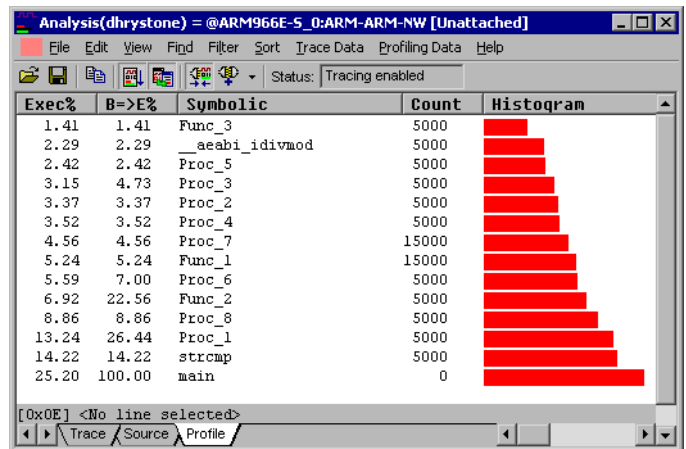
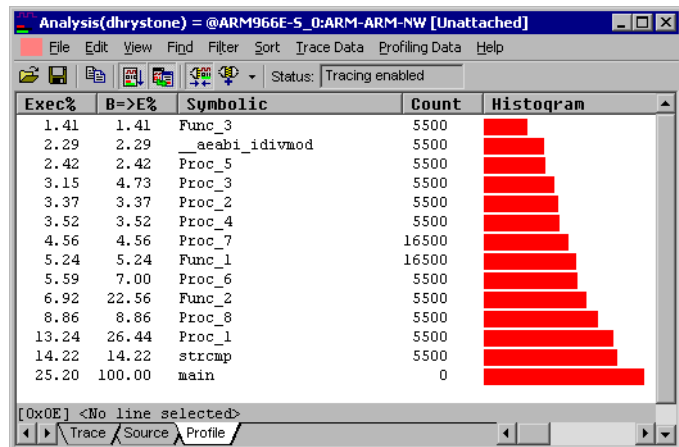

Figure 2-48 Results displayed in the Profile tab
Figure 2-51 Summing profiling data over multiple runs
9. In the Analysis window, click the **Profile** tab to display the profile data, as shown in Figure 2-48.
In the **Profile** tab, as shown in Figure 2-48 on page 2-145, the execution times for all functions accessed during the for loop are displayed, and a graphical representation of their respective execution times is shown in the **Histogram** column. For details on the types of information displayed in each column, see *Columns* on page 2-74.
5. Enter 500 for the number of runs through the benchmark. The profiling data is updated as shown in Figure 2-51.
Compare Figure 2-51 with Figure 2-48 on page 2-145. The summing of profiling data reveals the following information: